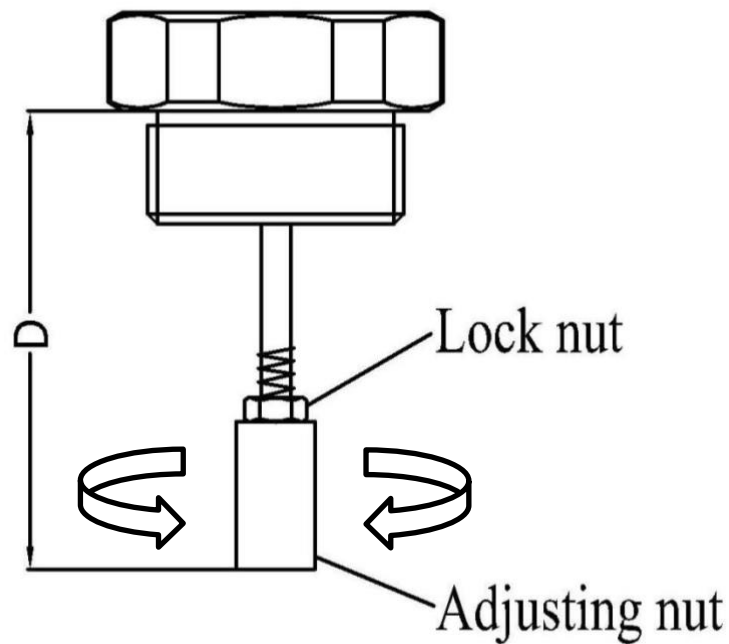

Figure 6. Travel sensor adjustment
3. Adjust the adjusting nut of the displacement sensor. Then measure the D value (as shown in Figure 6) by **the depth ruler** in the state of the displacement sensor being completely loosened. Calculate the compression value $L1 = D - C1$, $L2 = D - C2$. It is recommended that the compression value L1 and L2 are both in the reference range which is showed in Table 1. If L1 value or L2 value is unable to meet the reference range, adjust the D value according to the actual situation.